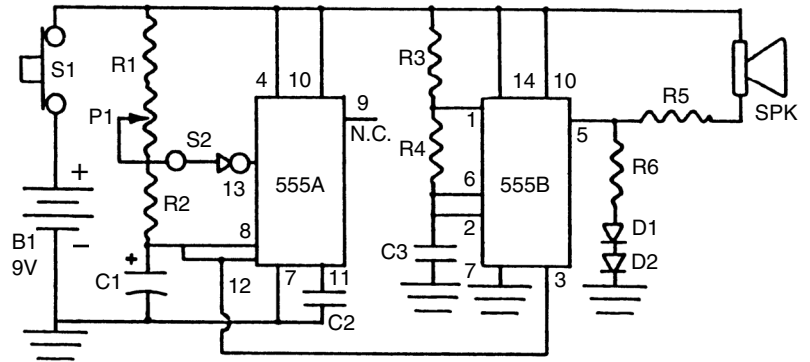
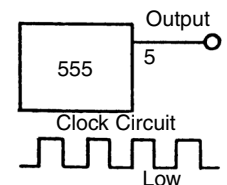

Figure 1
Figure 2
Figure 1 shows the circuit of the Space War Gun. It consists of two 555 integrated circuits (IC) packaged in one IC 556. A 555 timer is well known for its ability to operate as an astable multivibrator oscillator. This oscillator can put out a square wave or pulses depending on the value of the resistors. The first 555A IC oscillates at about 2000 cycles per second. The 555A IC drives the 555B IC to give the weird space sounds.
Let's study the right side of Figure 1 which shows the 555B circuit. Resistor R3, R4 and capacitor C3 control the frequency of oscillation of this circuit. Capacitor C3 charges through resistors R3 and R4, but discharges through resistor R4 and the IC. Since the value of R3 and R4 are  $1k\Omega$  and  $56k\Omega$  respectively, their total value equals  $57k\Omega$ . Thus, C3 charges through  $57k\Omega$  and discharges through  $56k\Omega$ . The charge and discharge time is about equal. The output at pin 5 will be a square wave as shown in Figure 2. The frequency of oscillation will be around 2,000 cycles per second. If a speaker is connected to output pin 5, we will hear the 2,000 cycle tone. When the two LEDs are connected to this output, they will light whenever the output goes positive. Resistor R6 is added to limit the current in the LEDs. Resistor R5 is added to limit the current in the speaker.